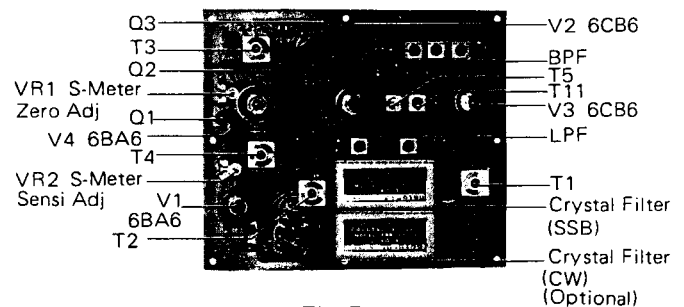

Fig. 5
3. IFT and Crystal filter (Refer to Fig. 5)